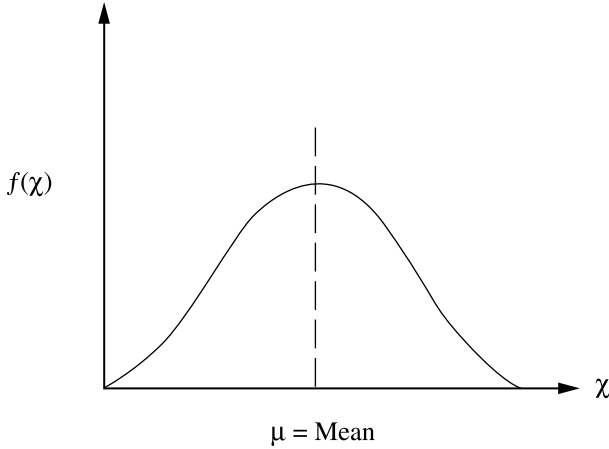

FIGURE N-1 Normal distribution.
**Normal density, normal distribution** The normal distribution is one of a few distributions used to simulate extreme events. It corresponds to the normal density function  $f(x)$ , with the mean  $\mu$  and standard deviation  $\sigma$  as parameters. Also called **Gaussian distribution**. *See* Figure N-1.